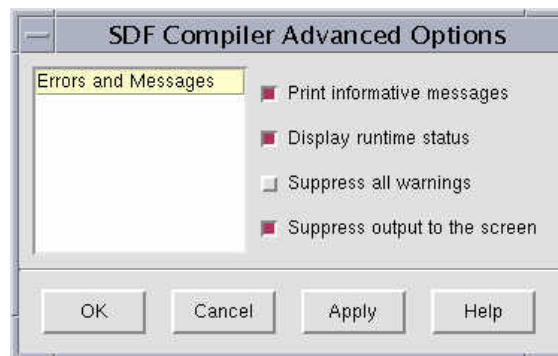

Figure 5-4 Advanced Options form.
- Set the Advanced Options form as figure 5-4. Click on **Ok** on both forms. The SDF compiling starts and the ncsdfc.log file creates in the working directory.